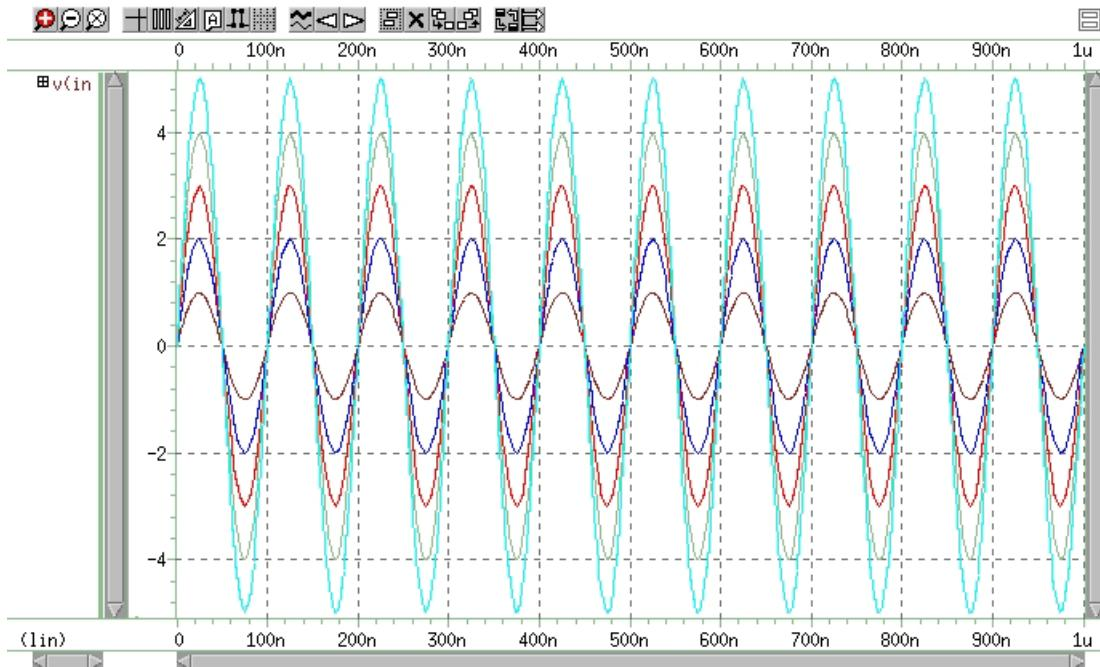

Figure 199 Plot of Voltage on Node in
5. Left-click on the signal $v(in)$, then drag and drop the selected signal into the WaveView panel to display a plot similar to the one shown in Figure 199 on page 1018.